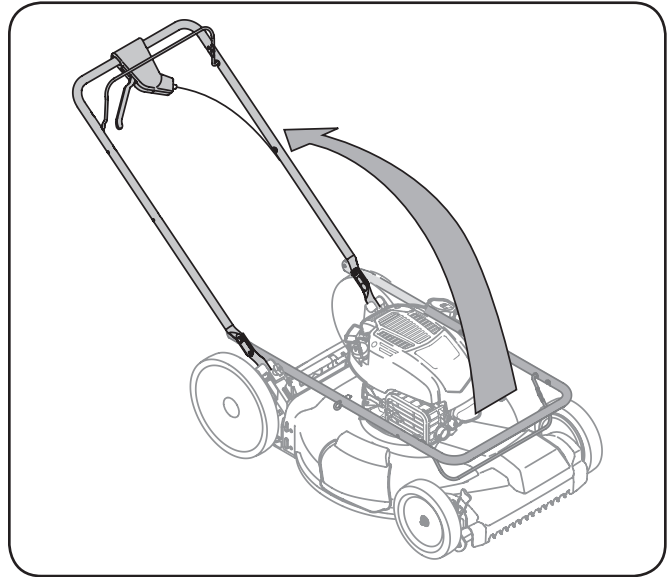

Figure 3-2
3. While stabilizing mower so it doesn't move, pivot upper handle up as shown in Figure 3-2. Do not crimp cable while lifting the handle up.